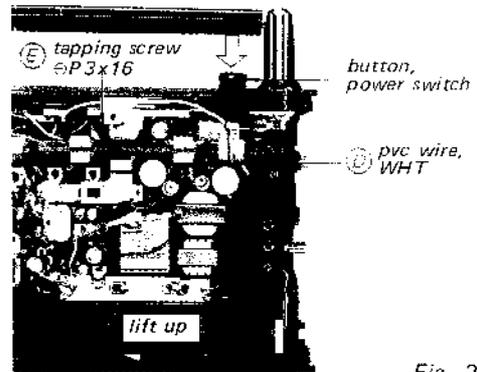

Fig. 2-4.
2. Push the POWER switch button as shown in Fig. 2-4.
3. Unsolder the pvc wire labeled (E) in Fig. 2-4.
4. Remove the screw labeled (E) in Fig. 2-4.